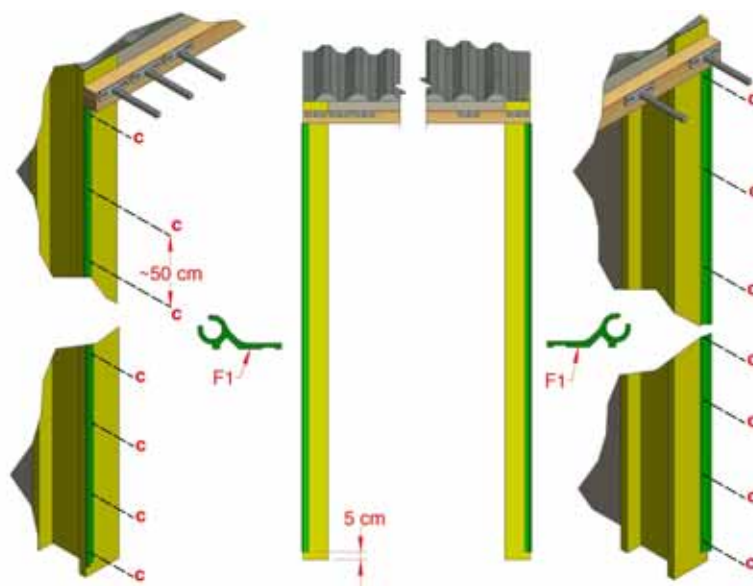

Figure 4, End Cover Kador Profile
2.2 Attach the Kador Profile (F1) to the ends of the system using the M4x19 self drilling screws (c) as shown in Figure 4.